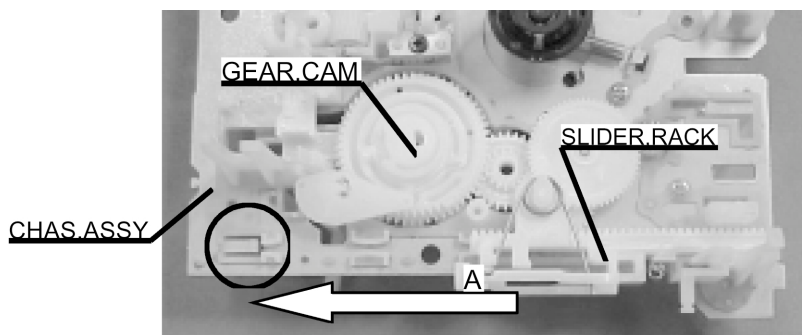

Fig.8-3
- 2) Slide the SLIDER, RACK in the direction of the arrow A while pressing the detent (circled in Fig. 8-3) and remove it.